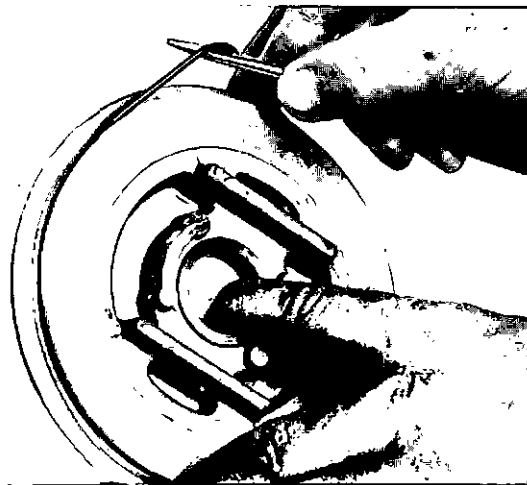

Fig. 4-11, (T465063). Remove the O-ring from the oil seal plate
12. Remove the O-ring (2) from the oil seal plate (1), Fig. 4-11. Discard the O-ring.